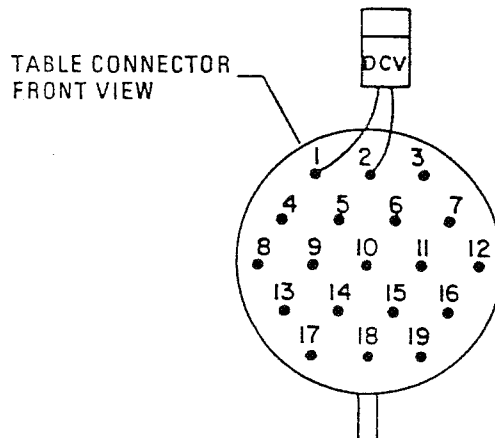

Figure 5-13. Front View Table Connector
3. Use a DC voltmeter 10V scale and measure the following pins located in the 19 pin table socket. See figure 5-13.